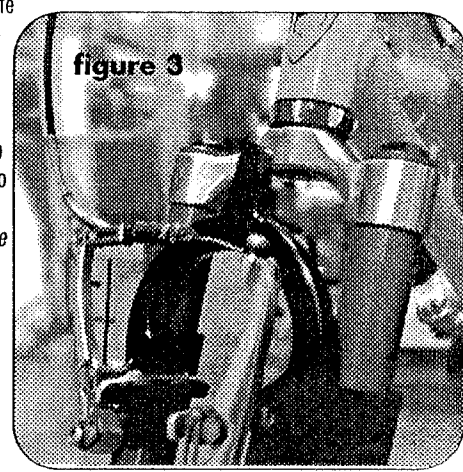

figure 3
13. For cantilever type brakes, route the brake cable to the White Brother Pro Forx brace cable mount. **Do not route the cable through the stem or any other mounts or cable stops!** (figure 3) The cable should make a direct route from the brake lever to the White Brothers Pro Forx brace cable mount and be able to move freely up and down through the full travel of the fork. It may be necessary to install a longer inner and outer cable. **NOTE: The distance between the brake cable hanger and the White Brothers Pro Forx brace cable stop mount must be a minimum of 12mm with the brakes on.** Note: Shimano® V-Brakes cable routing is direct from brake to brake lever.